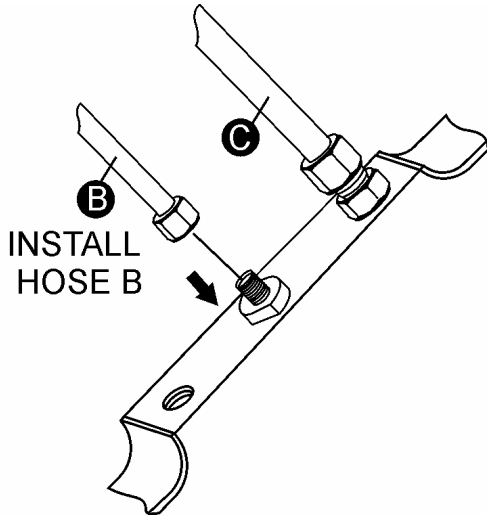

Figure 11. Re-Connect Hose B
11. Reinstall hose **B** as shown in Figure 11.